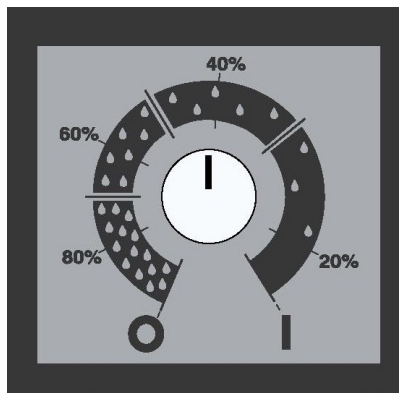

Fig. 3: Operating panel
1. Use the On/Off button (see fig. 2 and fig. 3, item 7 on page 13) to switch the air dehumidifier off.